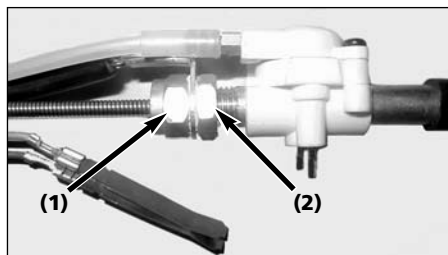
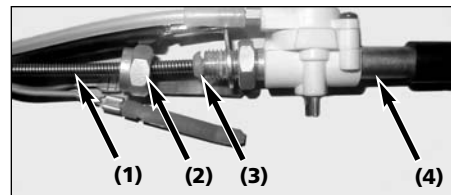

Figure 4a - Hold compression nut (1), loosen jam nut (2)
Figure 4b - Wire liner (1), compression nut (2), compression seal (3), swan neck (4)
5. Using two 14 mm wrenches, hold the compression nut and loosen the jam nut (see figure 4a). Then remove the compression nut. Slide the wire liner, compression nut and compression seal out of the swan neck being careful not to kink the wire liner in the process (see figure 4b).